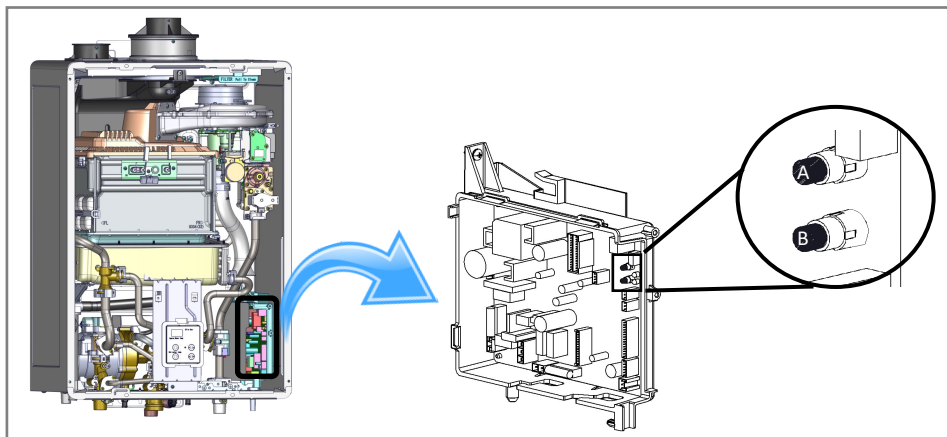

Figure 3. Push Buttons “A” and “B” on the PC Board
1. Locate the PC board (lower right side of unit) (Figure 3).
2. Locate the two push buttons (“A” and “B”) on the PC board (Figure 3).